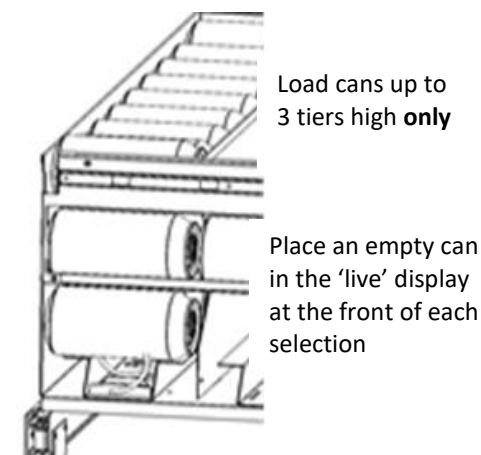

Fig 11.
Some vendors come equipped with the High Capacity Can Tray (HCCT) option. There are two setups for the HCCT option, one for vending 330ml/355ml (12oz.) and one for 375ml (13oz.) cans. Load product horizontally from front to rear and stack a maximum of three (3) levels high only, exceeding 3 tiers will result in motor/gearbox failure - Fig 11.